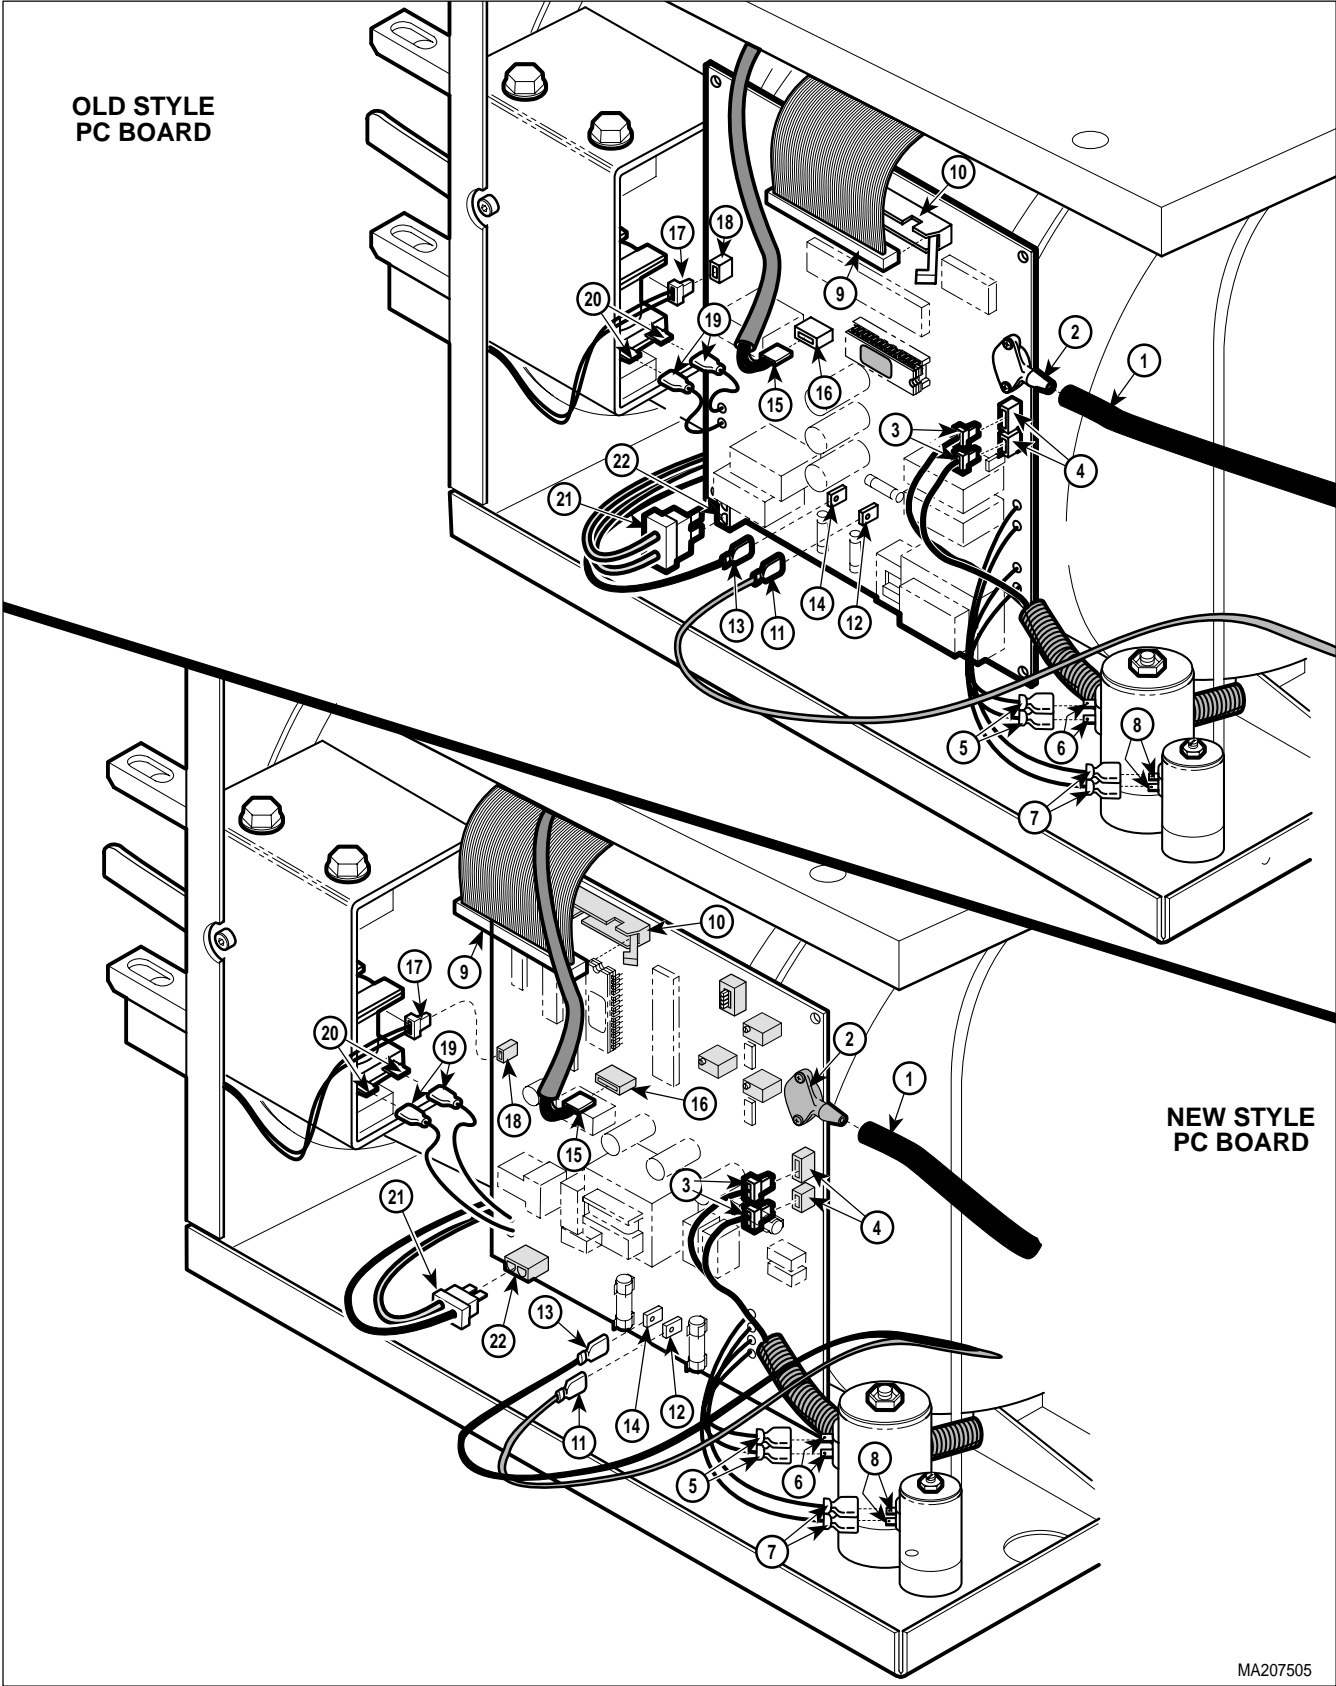

Figure 4-14. Control PC Board Connections
- (1) Remove right hand side panel (Refer to para 4.3).
- (2) Disconnect pressure tube (1, Figure 4-14) from pressure sensor (2).
- (3) Install control PC board (3) and control PC board bracket (4) as an assembly on base (5) and secure using two screws (2) and lock-nuts (1).
- (4) Connect heater element wire (21, Figure 4-14) to connector (22).